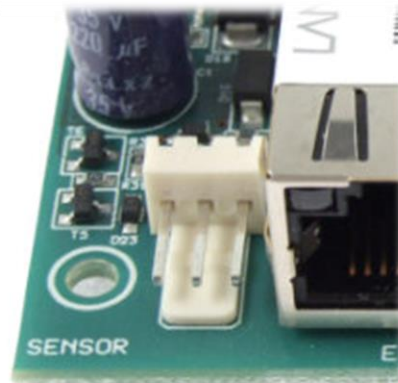

Fig. 8 – connector for the thermometer (here: Quido ETH 4/4)
- 3) If your Quido enables connection of a thermometer, the board includes a connector (with three terminals - see Fig. 8) labelled SENSOR (or TEMP). Here you can connect the temperature sensor. (The thermometer needs to be connected only if you want to measure temperature or use one of the functions of temperature monitoring.)⁹